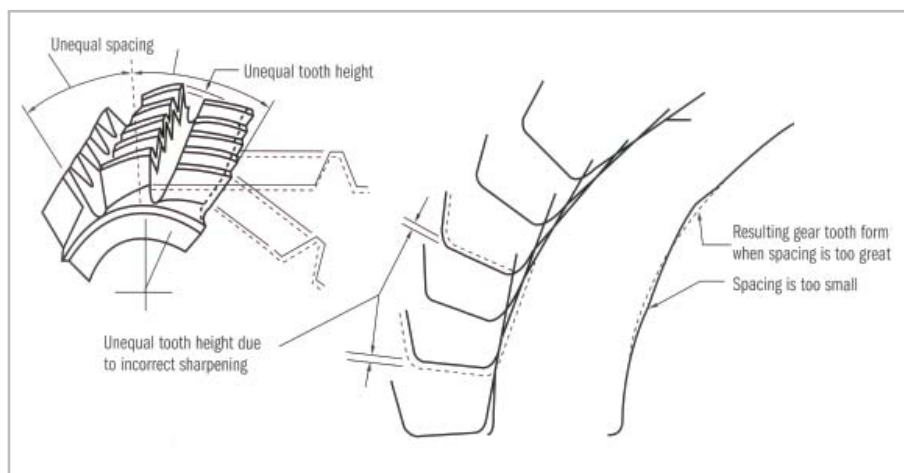

Figure 8. Effect on profile of a hob resharpened with cutting faces unequally spaced, creating accumulated flute spacing error.
- 3) Hob cutting faces are sharpened by unequal amounts resulting in uneven flute spacing (Figure 8)